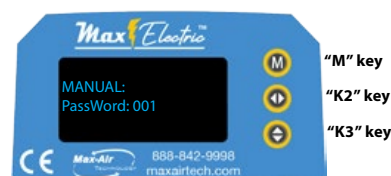

Fig. 3a
Manual Operating Mode: (refer to Fig 3a, 3b)
4. To bypass the active incoming signal and operate the actuator manually in local mode, press the K3 key for five seconds at which time MANUAL PassWord: 00"0" will flash. (Fig 3a). Press the K2 or K3 keys until the display reads "111". Now press the M key to enter manual mode.